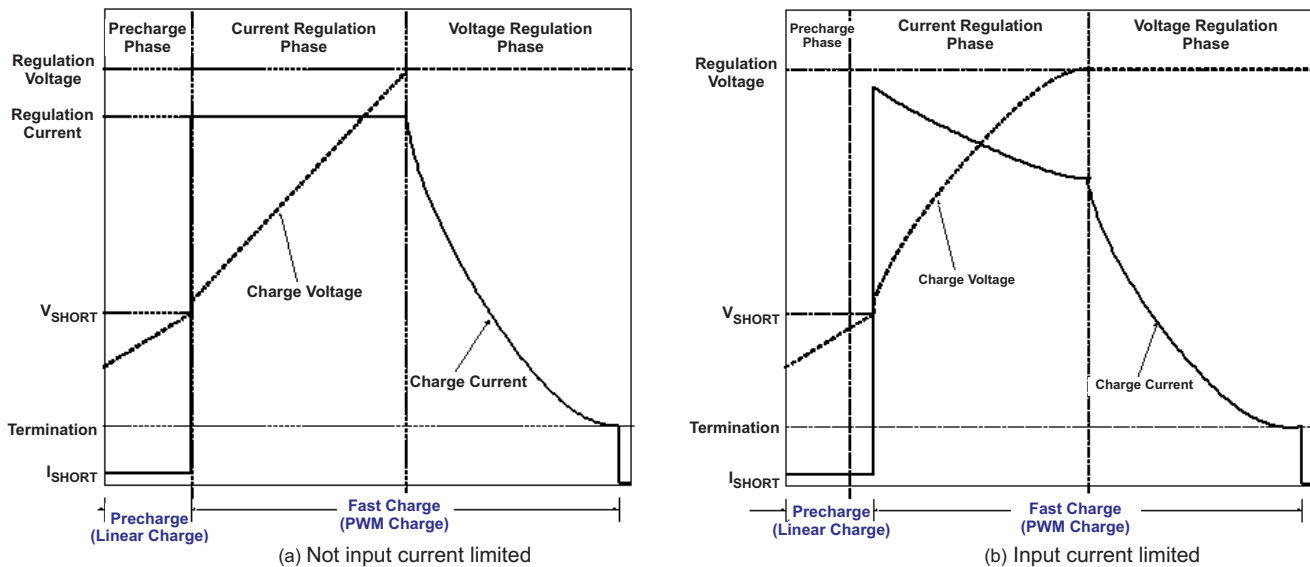

Figure 2. Typical Charging Profile of bq24273
There are 5 loops that influence the charge current; constant current loop (CC), constant voltage loop (CV), thermal regulation loop, input current sense loop and input voltage dynamic power management loop (VIN-DPM). During the charging process, all five loops are enabled and the one that is dominate takes control. The bq24273 supports a precision LiFePO4, Li-Ion or Li-Polymer charging systems for single-cell applications. Figure 2 shows a typical charge profile.
When the battery is deeply discharged or shorted ($V_{BAT} < V_{BATSHRT}$), the bq24273 applies a 50mA current to close the pack protector switch and bring the battery voltage up to acceptable charging levels. Once the battery rises above $V_{BATSHRT}$, the charge current is regulated to the value set in the I²C register. If the die temperature does heat up, the thermal regulation circuit reduces the charge current to maintain a die temperature less than 125°C. The slew rate for fast charge current is controlled to minimize the current and voltage over-shoot during transient. The charge current is regulated to $I_{OCHARGE}$ until the battery is charged to the regulation voltage. Once the battery voltage is close to the regulation voltage, V_{BATREG} , the charge current is tapered down as shown in Figure 2. The voltage regulation feedback occurs by monitoring the battery-pack voltage between the BAT and PGND pins. The bq24273 is a fixed single-cell voltage version, with adjustable regulation voltage (3.5V to 4.44V) programmed using the I²C interface.